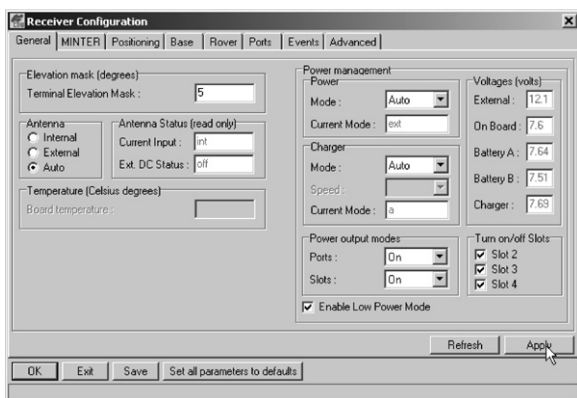

Figure 2-18. Enable and Apply Power Settings
8. Select and check each of the Turn on/off Slots check boxes to enable the corresponding internal slots (Figure 2-18).
9. Select and check the Enable Low Power Mode check box to put the receiver's processor into low power consumption mode (Figure 2-18).